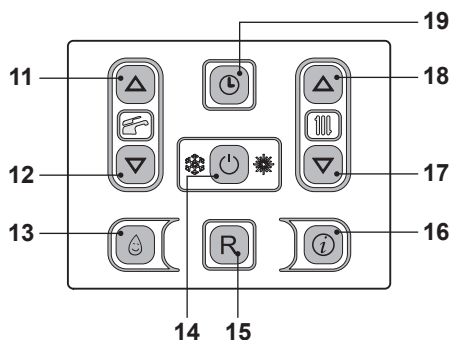
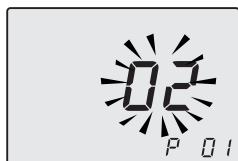
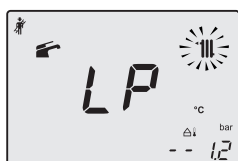

Fig. 9.20
Fig. 9.21
Fig. 9.22
- Enter in "programming mode" by pressing keys 14 - 17 - 18 (Fig. 9.20) for 10 seconds at the same time until the letters **P01** are displayed on the LCD display, indicating that "parameter 01" (Fig. 9.21) has been activated.
- Press keys 17 and 18 (Fig. 9.20) at the same time until the LCD display displays the letters **LP** that alternate with the heating water temperature value (e.g.45), indicating the activation of the "chimney sweep function" at minimum output (Fig. 9.22).
- By pressing 18 (Fig. 9.20) it is possible to change power in chimney sweep mode: with the letters **hP** on the LCD display which alternate between the heated water temperature (i.e.32), we are in the "chimney sweep function" at the minimum power during heating (Fig. 9.23).
- Press keys 14 - 17 - 18 (Fig. 9.20) at the same time again to exit the "chimney sweep mode" and return to the previously set boiler status (Fig. 9.26).